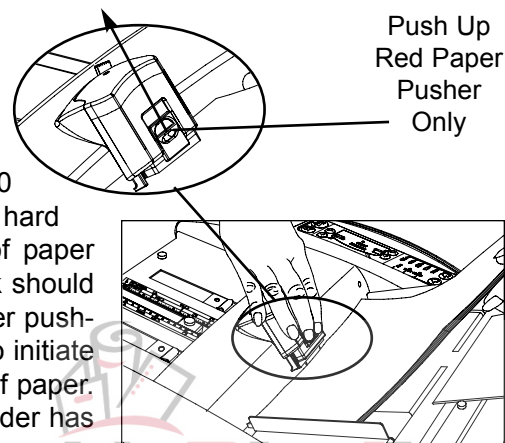

**Fig. 12**
rulers that represent the three common paper sizes (**Fig. 12**). The Electronic Display makes setting up folds a simple matter of choosing the paper size (**key A**) and the fold style (**key B**).
- (2) Using the fold table rulers for reference (**Fig. 12**), move the paper stop in or out with the corresponding arrow key. Please note that the arrow keys work the paper stops at two-speeds. If the key is pressed momentarily or jogged repeatedly, the paper stop moves at the slower speed. If the key is held longer, the paper stop will shift into the faster speed. This is helpful when moving the stops longer distances.